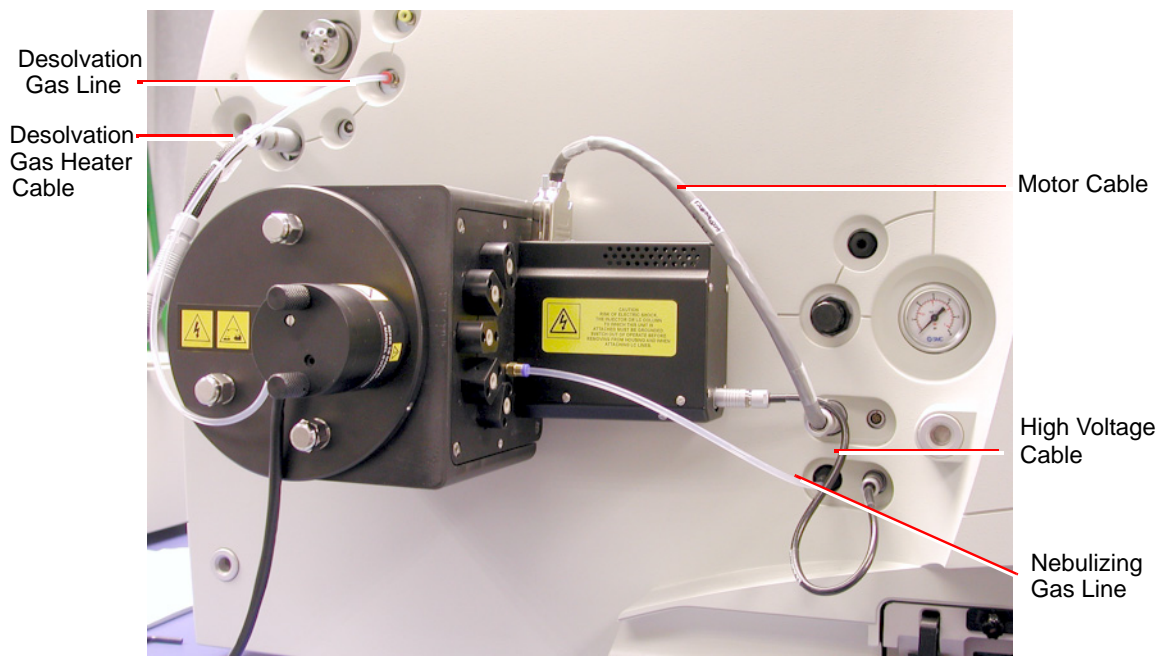

Figure 7-7 MUX Interface with Connections
8. Connect the following cables (Figure 7-7):